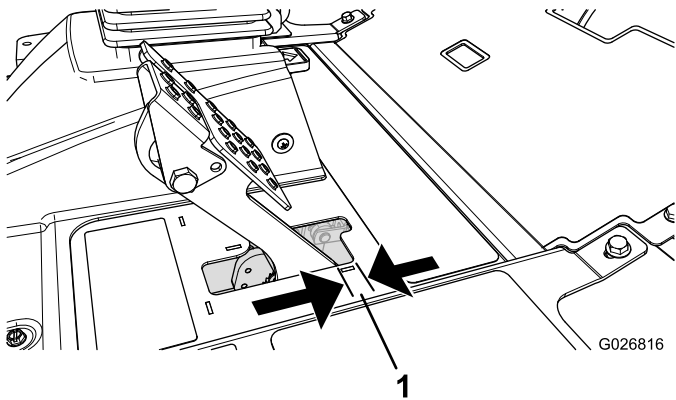

Figure 112
4. Lightly press the brake pedal; and measure the distance the pedal moves without resistance (Figure 112).
**Note:** Adjust the brakes if there is more than 2.5 cm (1 inch) of free travel (Figure 112) of the brake pedal, or if more parking-brake force is required.
6. Tighten the rear nuts to move the cable backward, until brake pedal has 6 to 13 mm (1/4 to 1/2 inch) of free travel (Figure 112), before the parking brake engages the wheels.